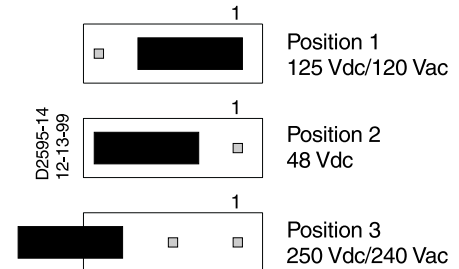
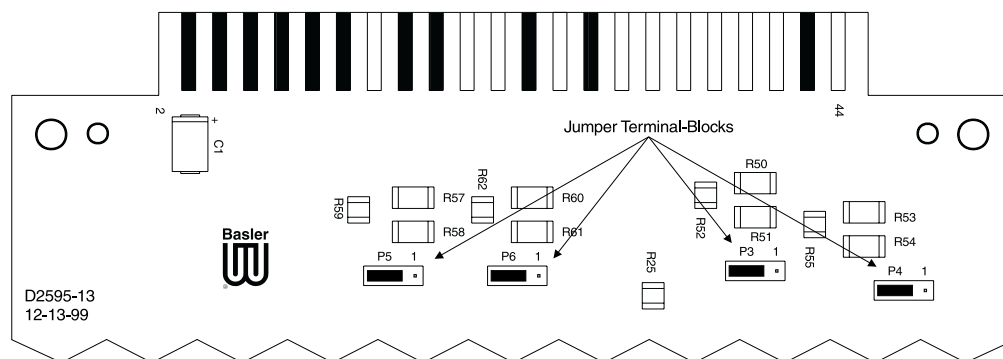

Figure 5-6. Contact Sensing Jumpers
Figure 5-7. Contact Sensing Jumper Locations
Energizing levels for contact sensing inputs V1 through V4 are jumper selectable for operation at three nominal voltage levels. Jumper P3 controls the operating voltage for V1, P4 controls V2, P5 controls V3, and P6 controls V4. Nominal voltage levels of 125 Vdc/120 Vac, 48 Vdc, or 250 Vdc/240 Vac may be selected. Figure 5-6 illustrates the three possible jumper positions for P3 through P6. Input V5 is dedicated to monitoring the relay power supply input and is not jumper selectable.
- Step 3. Locate the four jumper terminal-blocks (P3 through P6) on the circuit board. The jumper terminal-blocks are located on the component side of the circuit board near the rear contact fingers (see Figure 5-7). Each terminal block has three pins and each jumper is factory-installed on pins 2 and 3. Figure 5-6 illustrates each of the three jumper positions.